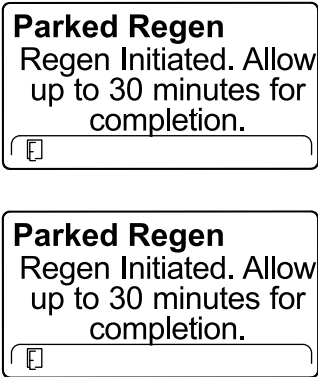

Figure 59
6. The InfoCenter displays the time to complete message (Figure 59).